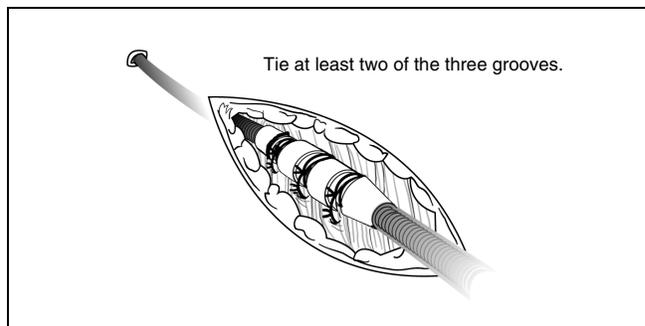

Figure 22. Using the sleeve with the percutaneous implant technique.
1. Peel back the introducer sheath and slide the suture sleeve deep into the tissue (Figure 22).